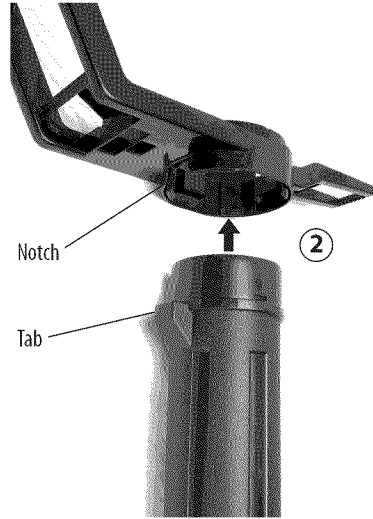

Figure 3-9: Connecting vacuum tubes to vacuum tube adapter
4. Connect the tubes to the vacuum tube adapter (see Figure 3-9). Align the tab on the top tube with the notch on the vacuum tube adapter. Press together until you hear a “snap”.